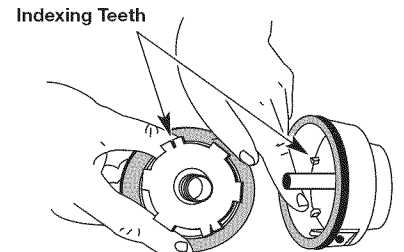

Fig. 15
5. Check the indexing teeth on the inner reel and outer spool for wear (Fig. 15). If necessary, remove burrs or replace the reel and spool.